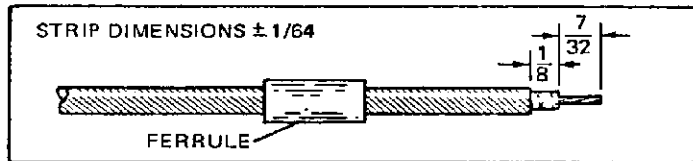

Figure 2
- (a) Slide ferrule on cable, then strip cable. See Figure 2.